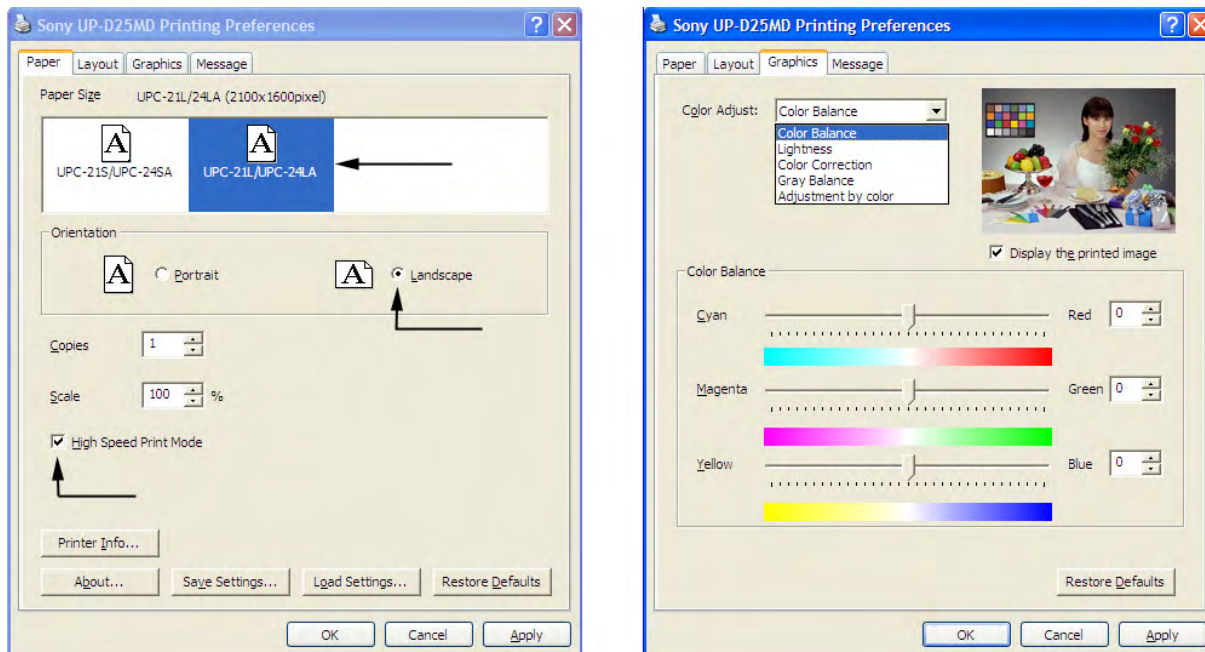

Figure 3-54 Paper / Graphics page
2. Select the **Paper** page and set settings as shown in the left image at Figure 3-54 on page 3-54.